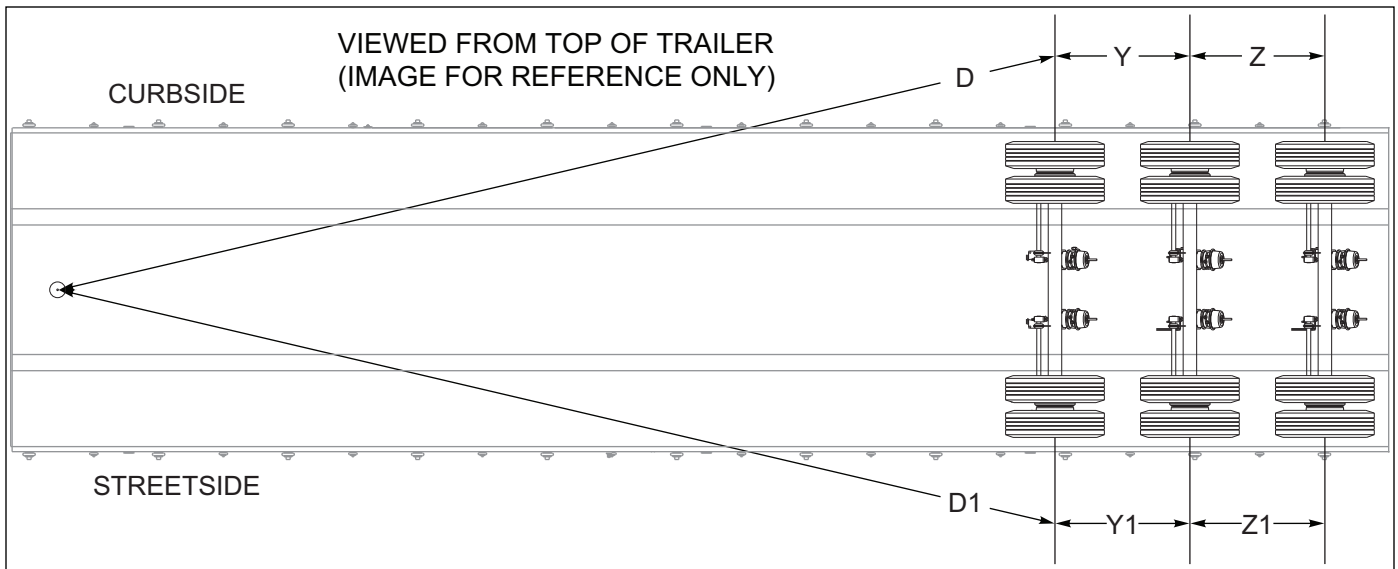

Figure 4-11: Checking Axle Alignment
5. Measure **Curbside (D)** from the plumb bob to the 1st axle center. Measure **Streetside (D1)** from the plumb bob to the 1st axle center. **Curbside (D)** should be about 1/8 in (3.18 mm) shorter than **Streetside (D1)**, *See Figure 4-11*.
2. Measure from 1st axle center to the trailer 2nd axle center on the curbside then the streetside. Measurements should be the same. Use **(Y)** and **(Y1)** as reference, *See Figure 4-11*.
2. Measure from flip assembly axle center to the trailer rear axle center on the curbside then the streetside. Measurements should be the same. Use **(Y)** and **(Y1)** as reference, **See Figure 4-11.**